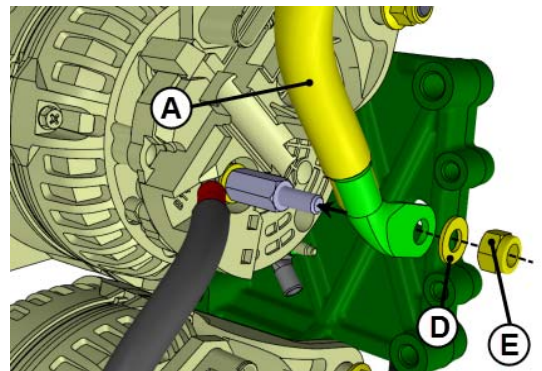

FIGURE 19
26. Reinstall the (+) power cable **A**. To do so, connect power cable **A** to the upper alternator **B1+** stud terminal. Refer to FIGURE 19.